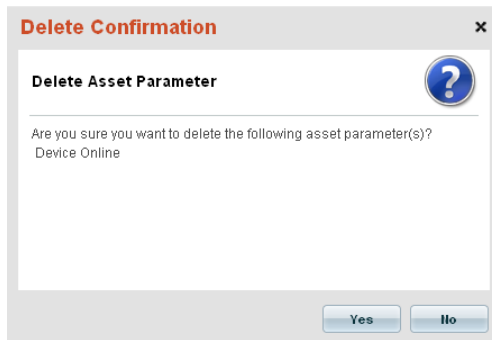

FIG. 261 Delete Confirmation dialog - Delete Asset Parameter
- The program will prompt you to verify this action before the parameter is deleted from the system (FIG. 261):